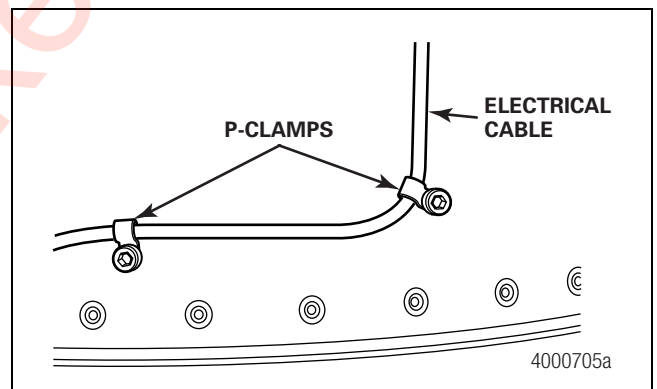

Figure 2.68
4. Route the wiring harness from the warning light to the trailer seven-way box. Secure the harness to the front of the trailer using the supplied P-clamps. Cut the harness ensuring there is sufficient length to make the connections in the seven-way box. Route the harness into the seven-way box. Figure 2.68.